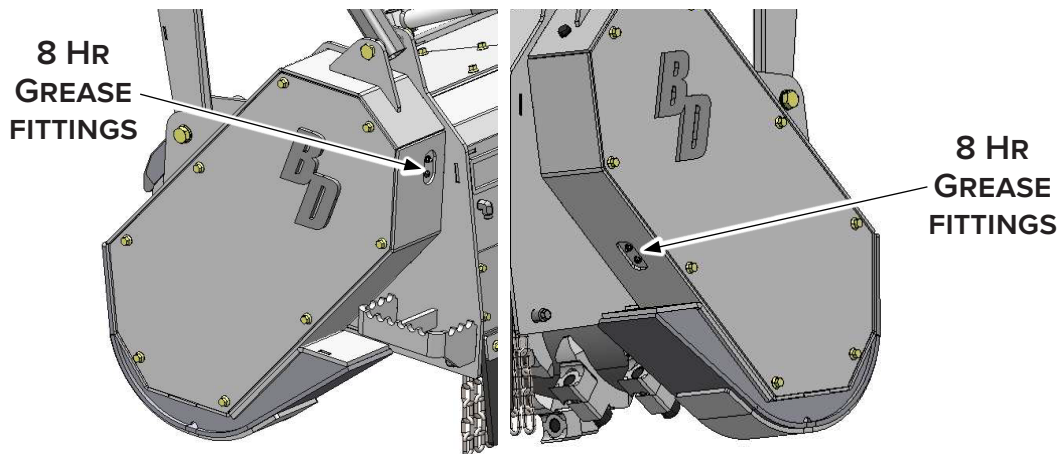

Figure 9
Pump 3 – 4 shots of grease into each of the two (2) grease fittings labeled "8 Hour" located on each side of the attachment [Figure 9]. The "8 Hour" grease fittings lubricate the cutting drum bearings.